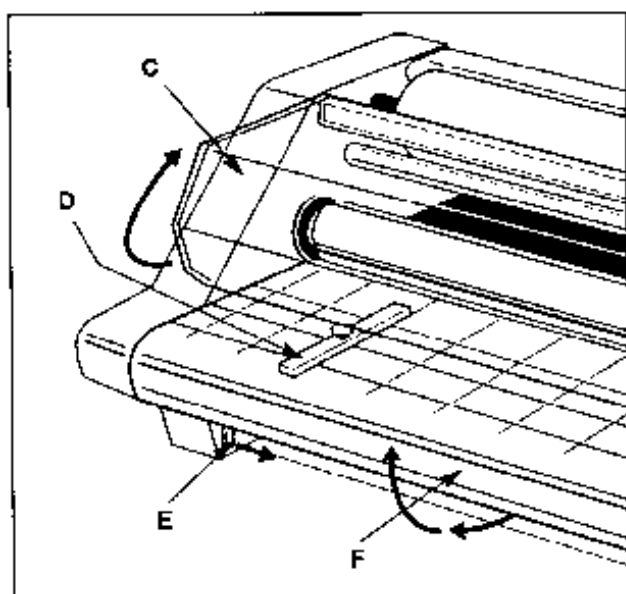

Fig. 3
C. SAFETY SHIELD: Figure 3. Prevents entanglement, entrapment and inadvertent contact with the heat rollers. The laminator will operate only when the Safety Shield is located in the fully down position. Power to the motor is removed when the shield is raised.
D. FEED TABLE: Figure 3. The Feed Table is used to position items for lamination. The laminator will operate only when the Feed Table and Feed Table Latch are properly installed.
E. TABLE INTERLOCK LATCH: Figure 3. Used to lock the Feed Table into position and activate an interlock switch. The interlock latch is located on the left underside of the Feed Table. The table cannot be removed without retracting the latch to the right while lifting the table upwards and away from the laminator. The laminator will not operate when the table is removed and/or the interlock latch is retracted.
F. FEED GUIDE: Figure 3. The Feed Guide permits aligning the item(s) to be laminated and is used to keep longer items straight. The Feed Guide may also be used to feed smaller items side by side by positioning the guide towards the center of the Feed Table and placing smaller items against each side of the Feed Guide as they are being introduced into the nip point of the heat rollers. To position the adjustable guide, loosen the knob on the top of the guide, slide it to the desired position and tighten the knob to secure in place.
F. SEITENFÜHRUNG: (Abb. 3) Dient zur Ausrichtung der zu laminierenden Dokumente. Um die passende Seitenführung zu positionieren, lösen Sie den oberen Knopf, bringen ihn in die gewünschte Position und stellen ihn fest.
E. VERROUILLAGE DE LA TABLE D'ALIMENTATION: figure 3 ; situé sous la table d'alimentation, côté gauche. Pour retirer la table, soulevez la en tirant le loquet vers la droite. La plastifieuse ne peut fonctionner que si la table d'alimentation est correctement positionnée et verrouillée.